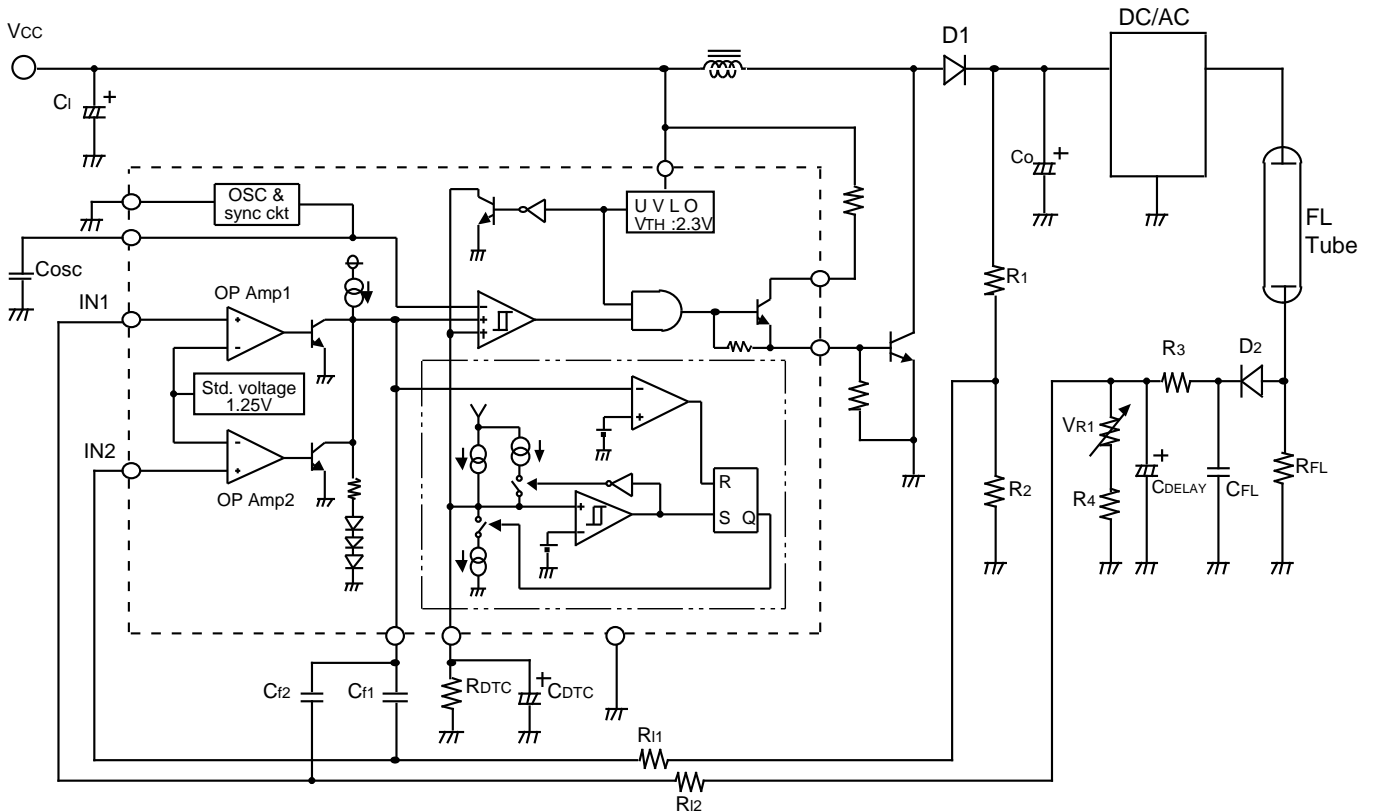

Fig.1 An Application of the Back Light Control Circuit
1) Soft Start (The peripheral circuit is shown in Fig.1)